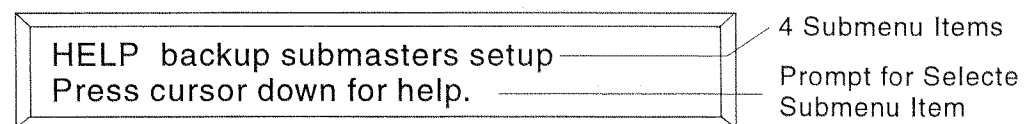

Figure 5.1. Main Menu
1. Press the MENU key. The LCD windows displays the Main menu showing all the submenus as Figure 5.1 shows.
Notice that all the submenus are listed only in the top row. The second row provides the prompts or values for the selected submenu item. To select a submenu item from the Main menu, press the CURSOR Left or Right Arrow key. The four menu CURSOR keys surround the MENU key. Notice that each time you press the CURSOR Left or Right Arrow key a different menu item changes. Also notice that the letters in the name of the selected submenu item are capitalized or, in some cases, an item is enclosed in square brackets “[]”. Figure 5.1 shows HELP as the default item and that you press the CURSOR Down Arrow to display the help messages. Remember that capital letters, bracketed letters, or numbers indicate *selected* menu item.